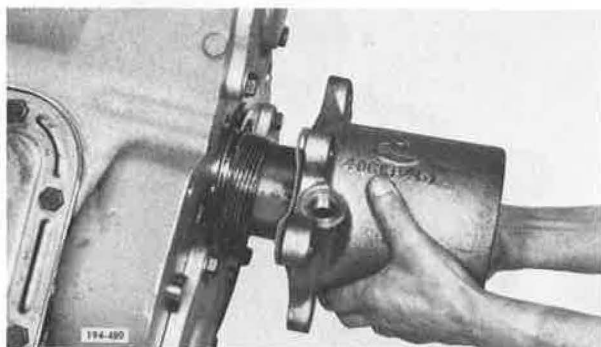

Figure 5-491. Installing Cover and Gasket
23. Apply sealer compound and install mainshaft rear bearing cover gasket and cover assembly. See Figure 5-491.